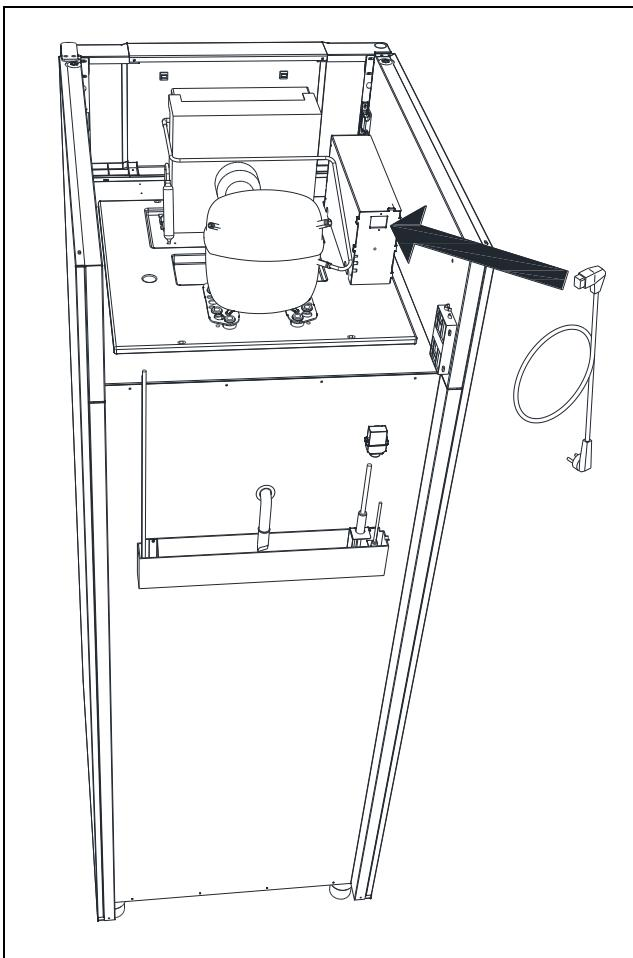

Fig. 7
- ⚠ The cabinet is intended for connection to alternating current. The connection voltage (V) and frequency (Hz) are shown on the name plate in the cabinet (see Fig. 10, page 49). Only the supplied detachable cord is to be used (see Fig. 7).